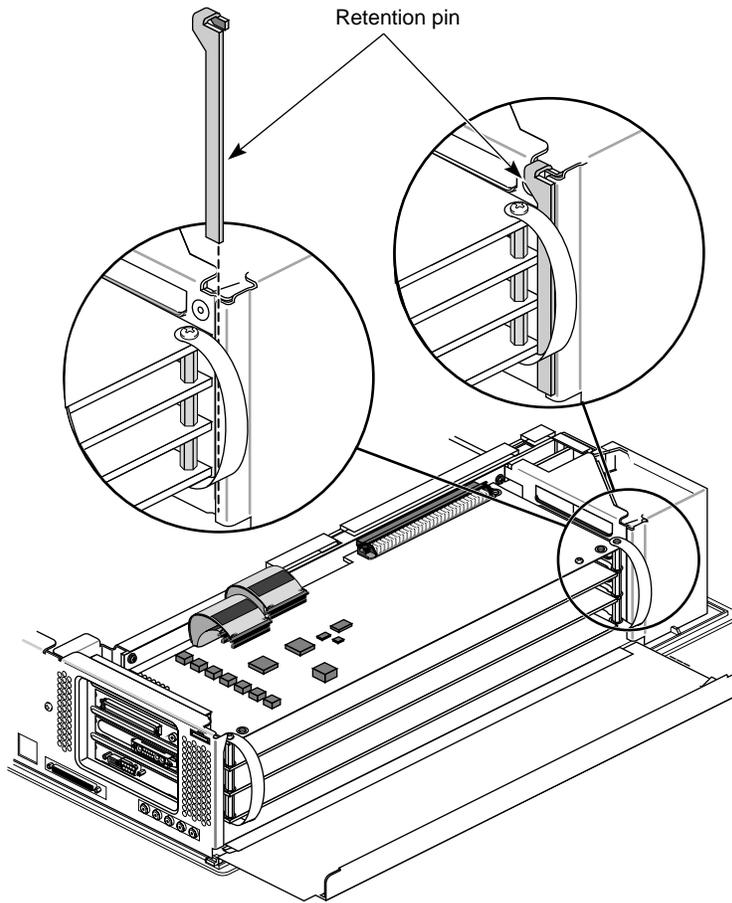

Figure 1-37 Inserting the Retention Pin
3. Insert the retention pin that you removed earlier, as shown in Figure 1-37. This secures the Presenter and graphics boards to the chassis.